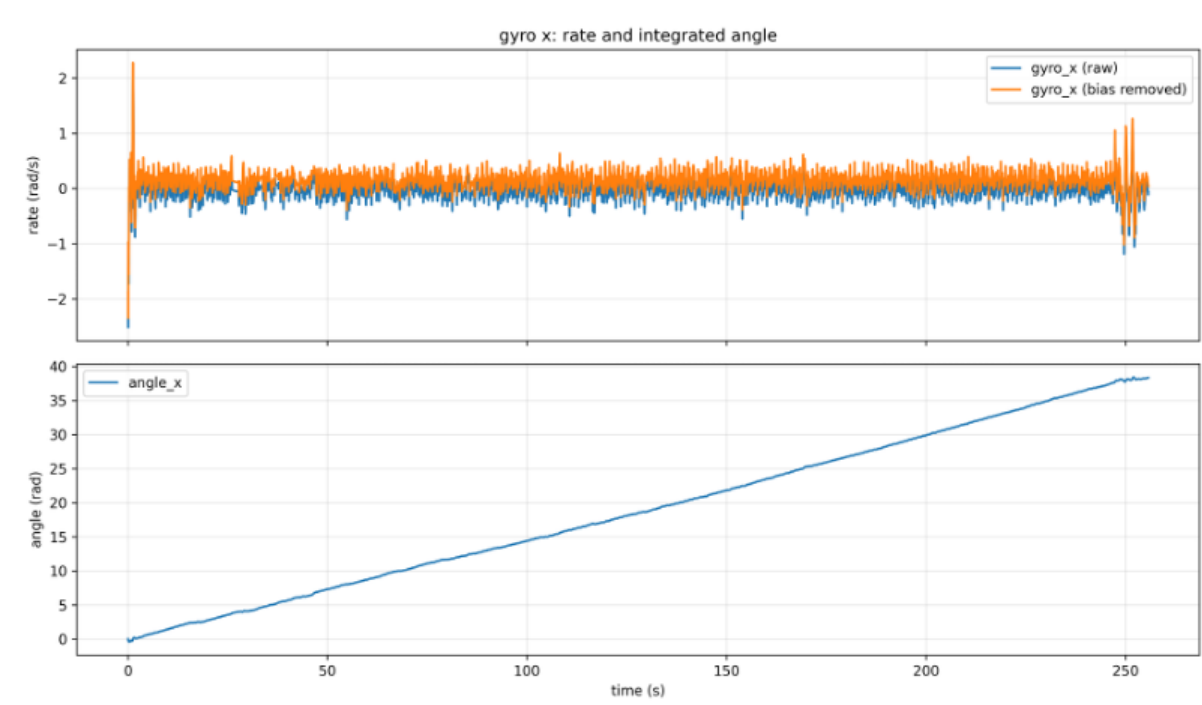

Figure 10: Gyroscope X-axis: rotational rate and integrated rotation
**Task:** Plot rotational rate around X and rotation from the gyro around X (integrate once) on two subplots (Fig. 10).